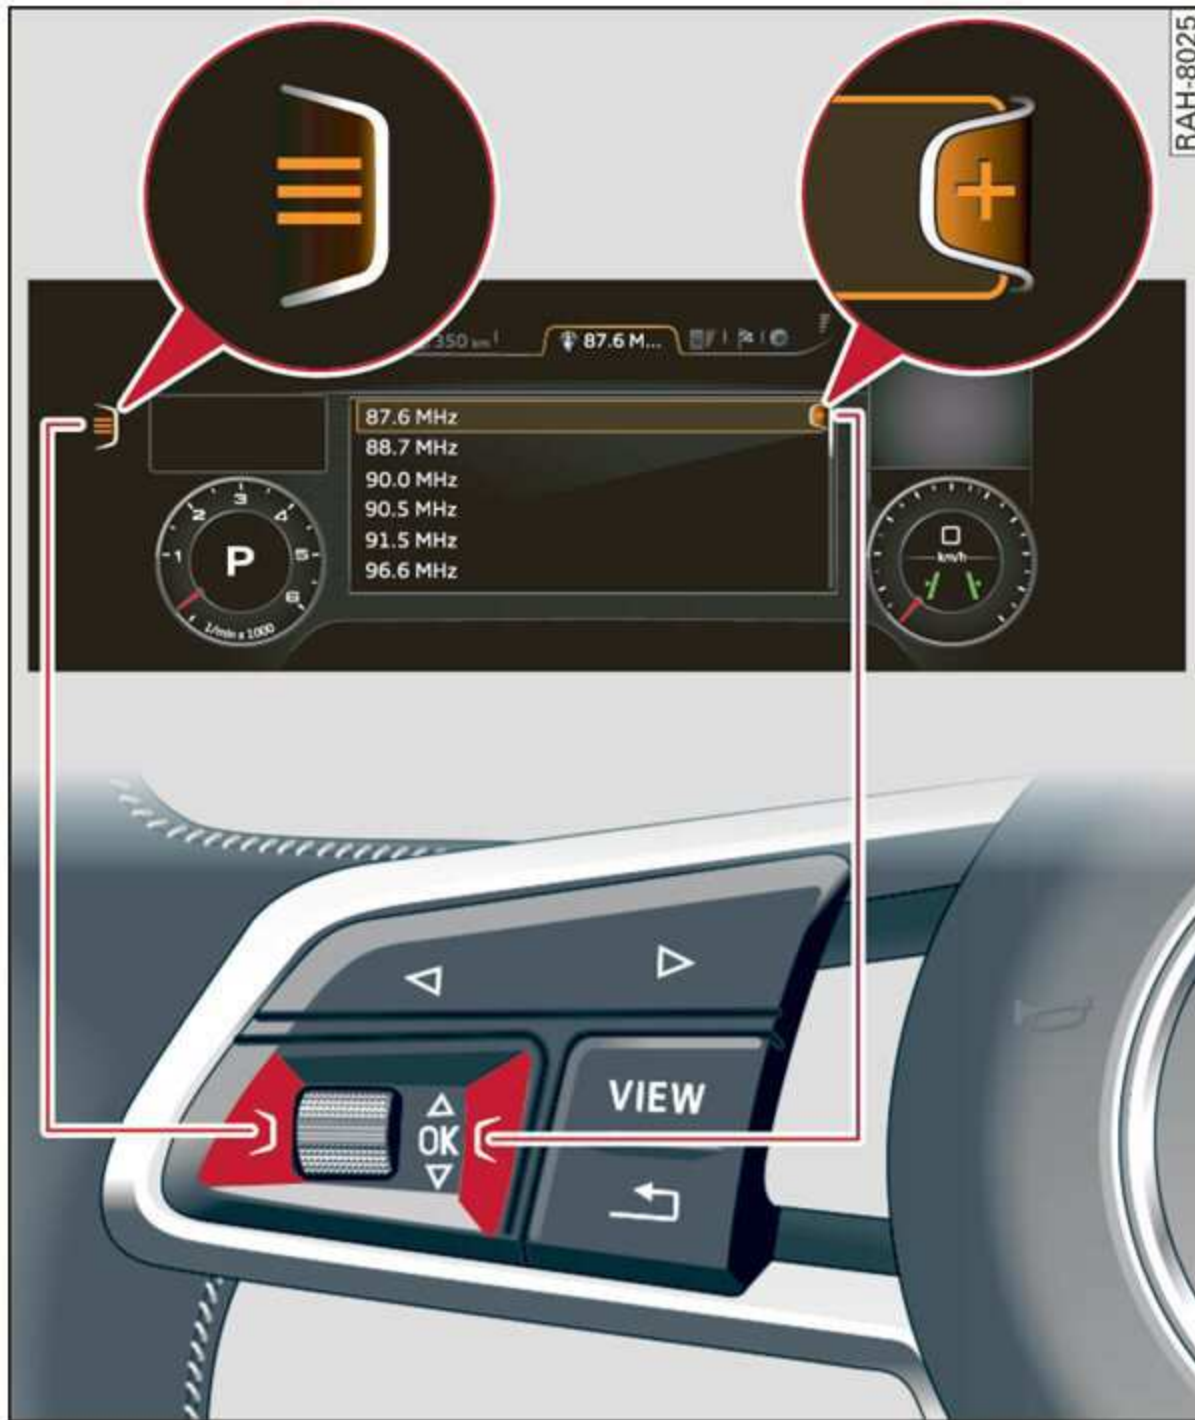

Fig. 7 Opening the selection and options menu
- **Opening and closing the selection menu:** press the respective left control button on the steering wheel ⇒ *fig. 7*. You can now select and confirm a function in the selection menu using the left thumbwheel (for example, selecting a frequency band).
- **Opening and closing the options menu:** press the respective right control button on the steering wheel ⇒ *fig. 7*. You can now adjust any context-dependent functions and settings using the left thumbwheel (for example, sound settings).